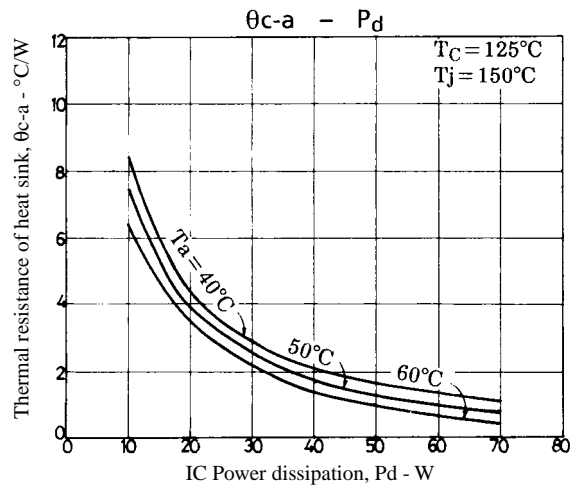

Figure 3. STK4162II θc-a – Pd
Figure 3 shows the relation between Pd and θc-a given from (1) and (3) with Ta as a parameter.
The thermal resistance of a heat sink is obtained from Figure 3.